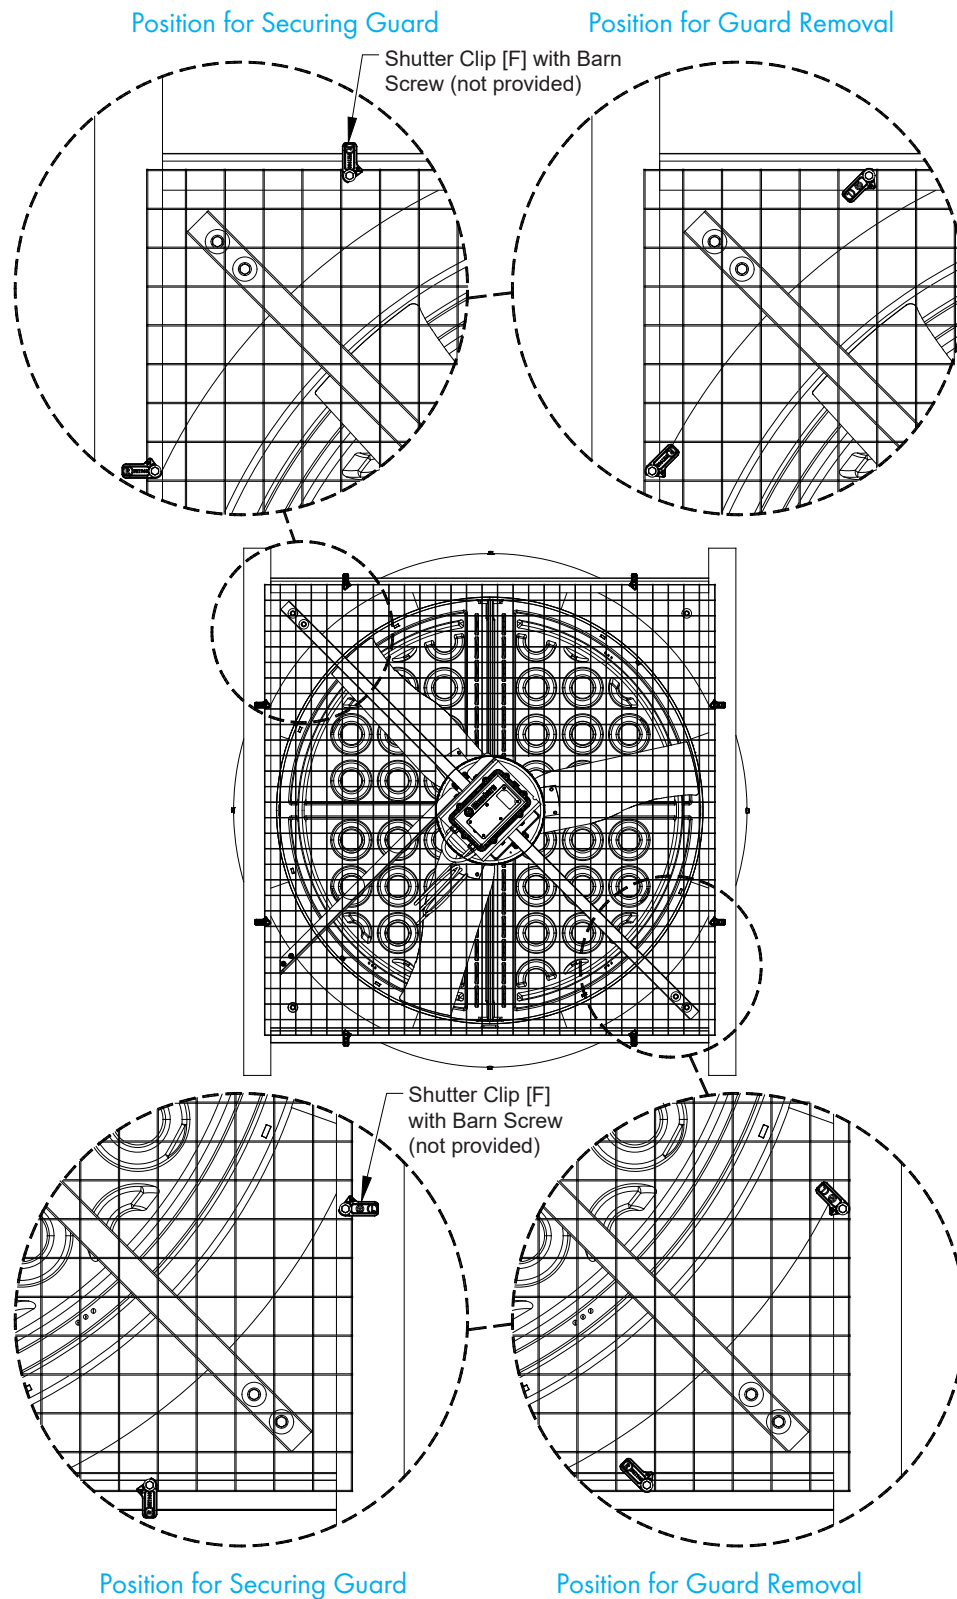

Figure 14B
Place guard against framing and fasten guard in place using (8) Shutter Clips [F] and Barn Screws (not provided), 2 per side. See Figure 14B.